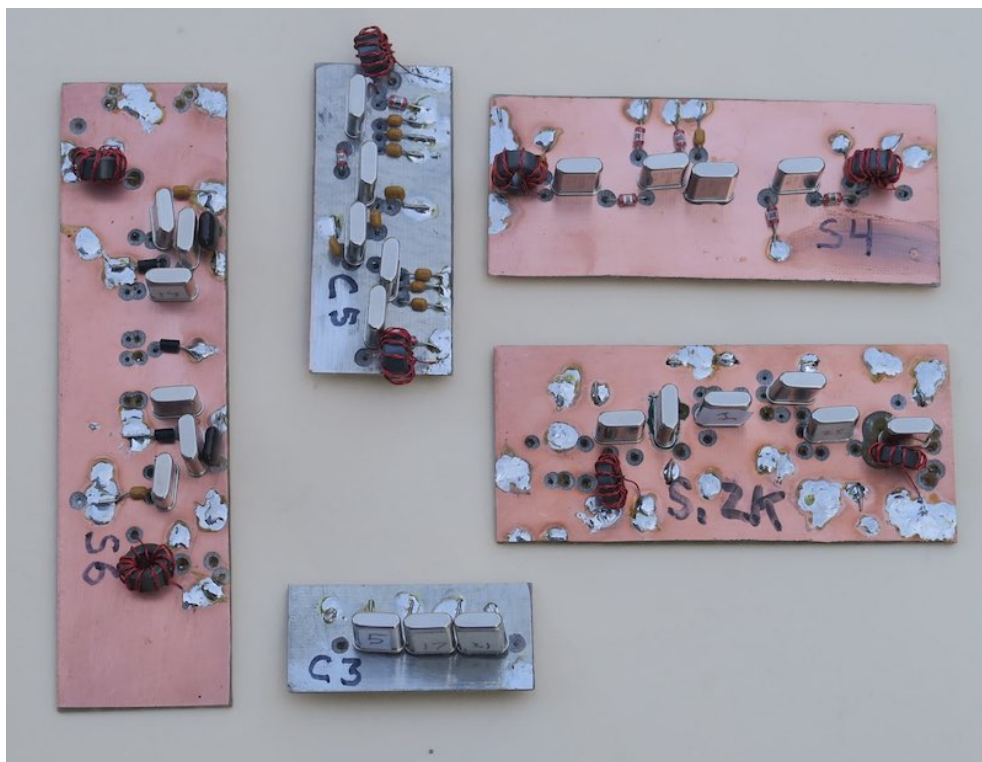
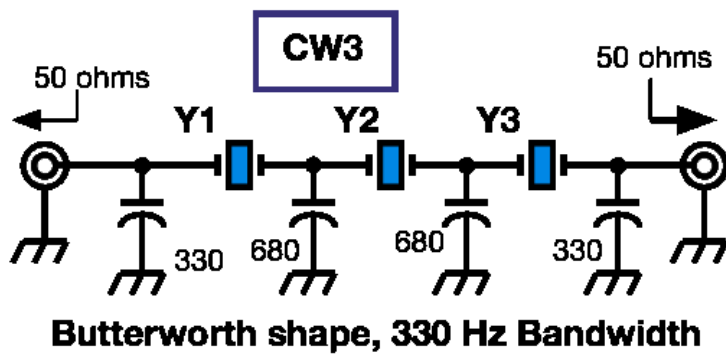

Fig 2. These are the five filters built from a batch of 35 crystals.
Fig 5. N=3 CW filter.
The experiments concluded with five crystal filters having been built, shown below in Fig 2. The simplest filter used just 3 crystals while the more complicated circuits used 6. All of the filters were designed with XLAD, a program that was part of Ladpac, a suite of programs offered with EMRFD. (ref 2) All of the filters use a 50 ohm termination at each end. That is, the filters should "see" a wideband 50 ohms at both input and output. Measurements were done with a VNA designed and popularized by Paul, N2PK. A Nanovna would be a suitable alternative. The N2PK VNA data was exported to our computer where it was plotted in Excel. Almost all of the capacitors used in the filters are standard values. It is generally important to use the values shown. In a few cases, parallel combinations of standard values have been used.
CW filters are generally easier to design and build than the wider bandwidth SSB circuits. The two CW filters were both designed for a Butterworth shape. They offer a rounded peak shape, which usually means a minimum of ringing. The simplest CW filter shown in Fig 5 uses only 3 crystals. The bandwidth was confined to 330 Hz which allows the filter to function with 50 ohm terminations. Transformers were not required. This N=3 filter required no tuning capacitors in series with the crystals. In spite of the simplicity, this filter will sound great in a simple CW receiver. This is the bottom most module in the Fig 2 photo. There are no capacitors showing in the photograph. The capacitors are SMT types on the bottom of the board. Capacitor type (SMT or leaded) and board layout are up to the builder.